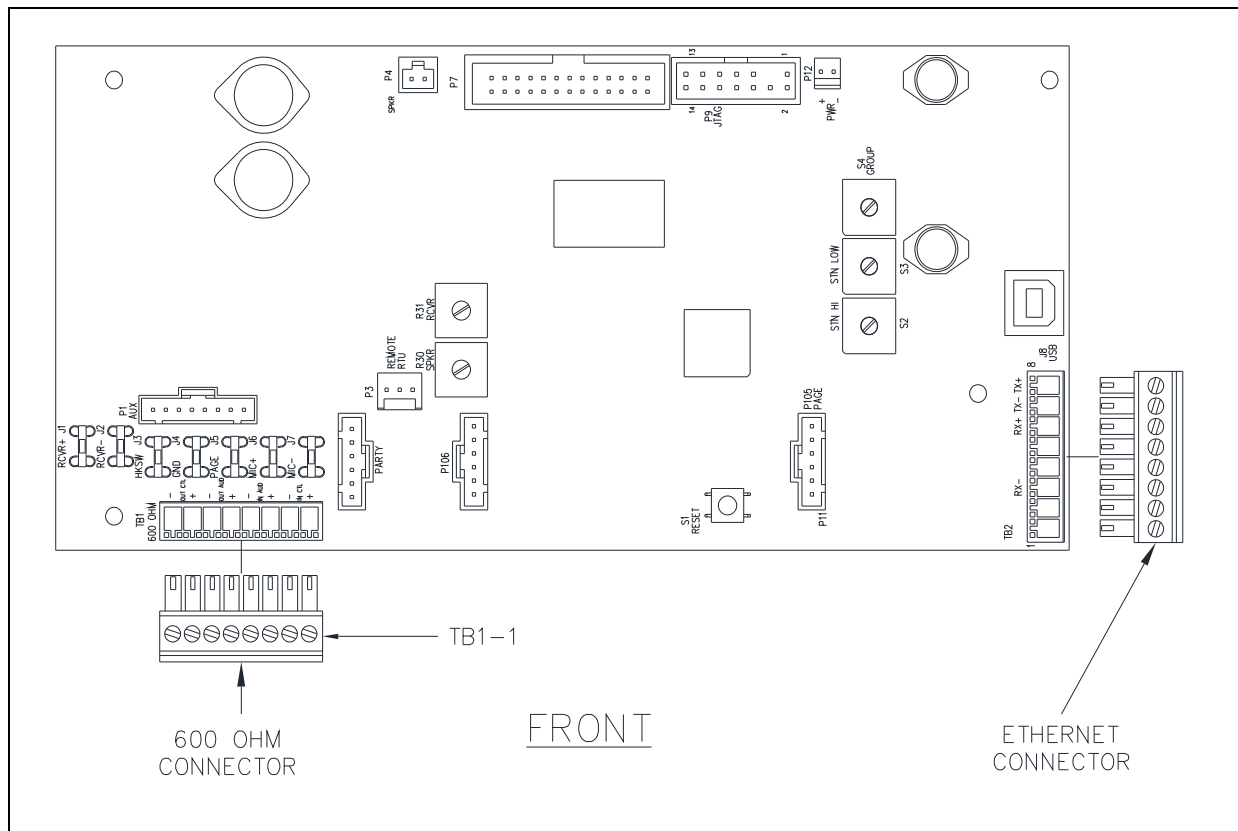

Figure 9. SP2 Main PCBA (Ethernet)
3. Connect the 600-ohm audio wires to the pluggable terminal block for the 600-ohm audio I/O connection (see Table 8 and Figure 9).
4. Connect the pluggable terminal block to the main PCBA terminal block TB2 (see Figure 9).